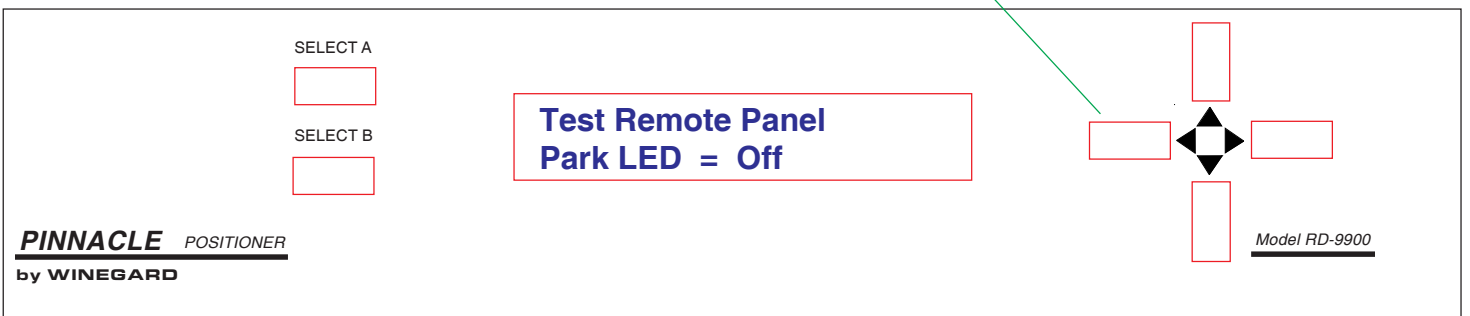

Figure 18
11. Press **[LEFT]** arrow button twice. Park LED will extinguish on remote panel when **Park LED = Off** is displayed on positioner. See Figure 18.